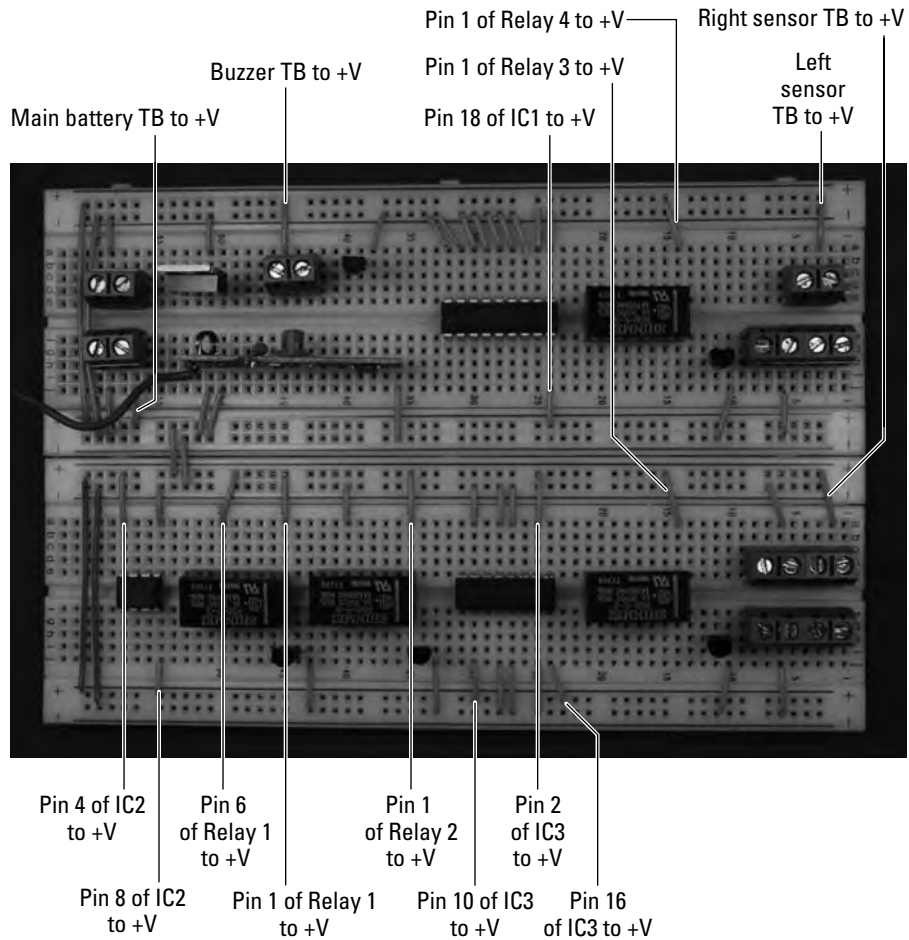

Figure 13-22:
5. Insert wires to connect the ICs, the terminal blocks, relays, and the voltage regulator to the +V bus. Then insert wires between the +V buses to connect them, as shown in Figure 13-22.